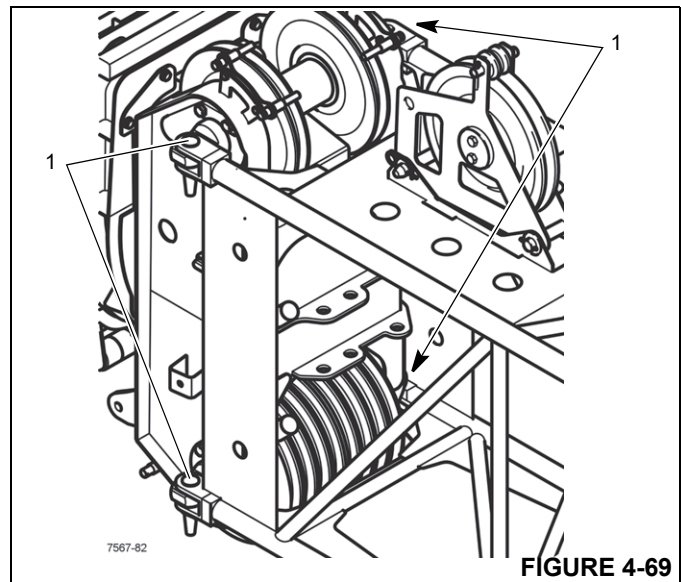

FIGURE 4-69
3. Lift the extension in front of the main boom head so the four connecting points (1) (Figure 4-69) align on both sides.
5. Insert the pins into the connecting points (1) and secure them with retaining clips.
4. Remove the pins from the connecting points (1) (Figure 4-69).